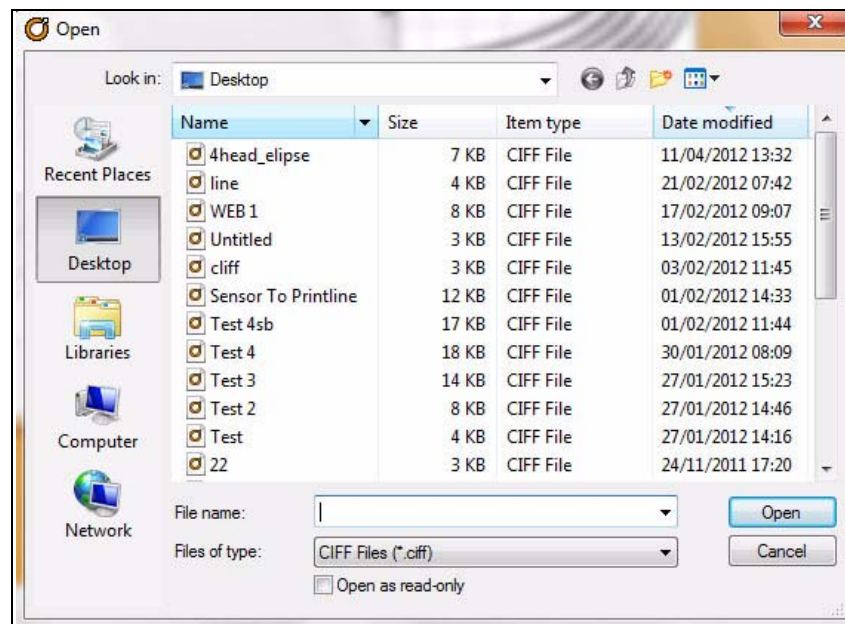

Figure 6-8: Open Dialog Box
- 6 Click the *OK* button. The *Open* dialog box appears (see Figure 6-8).